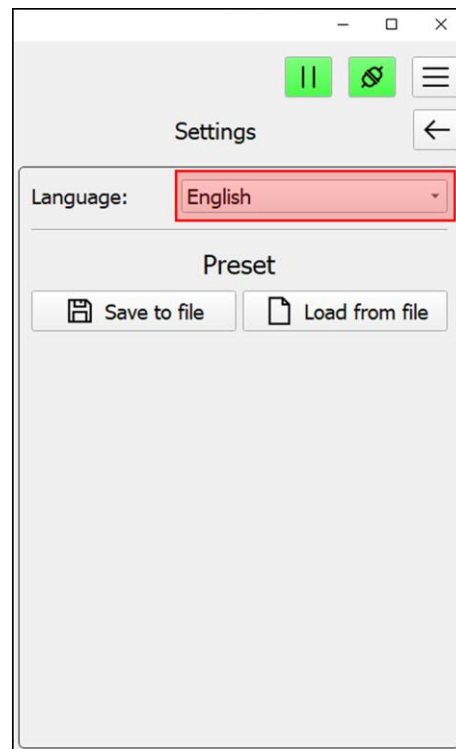

Figure 5.9 - Settings menu
5.7.1. Enter the «**Settings**» section of the main menu (Figure 5.9).